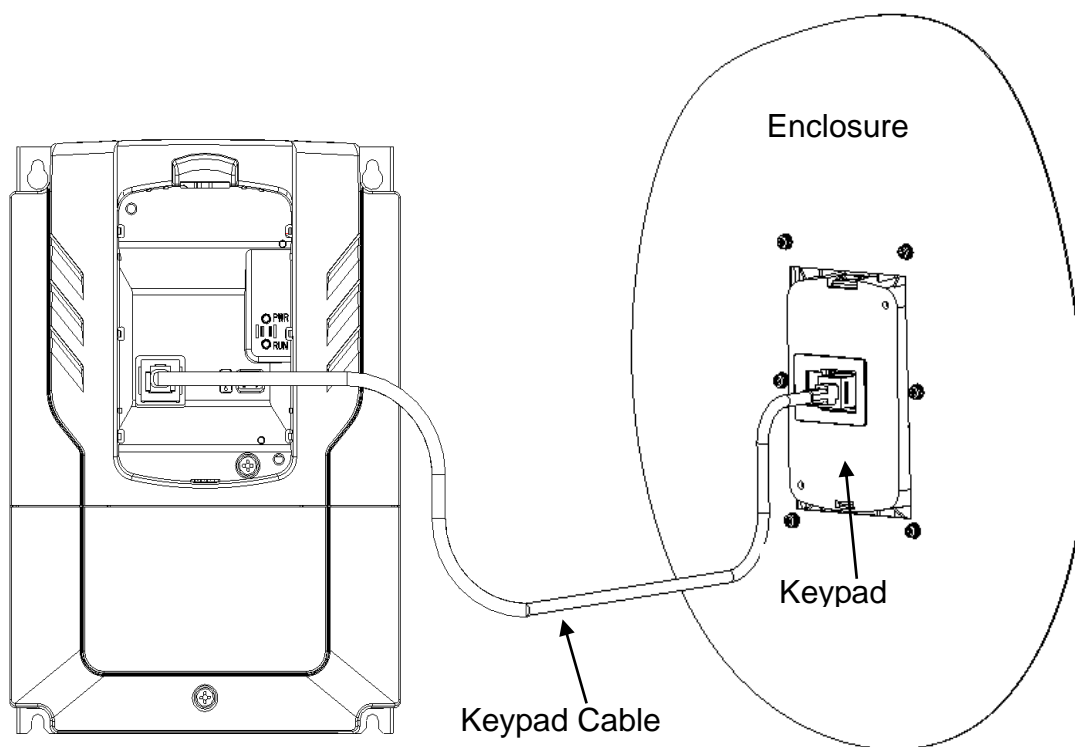

Figure 5. Keypad Cable Installation
7. Refer to Figure 5, plug one end of the keypad cable to the female connector on the back of the keypad. Plug the other end of the keypad cable to the female connector on the front the drive. The location of the connector on the drive varies with drive type and size.